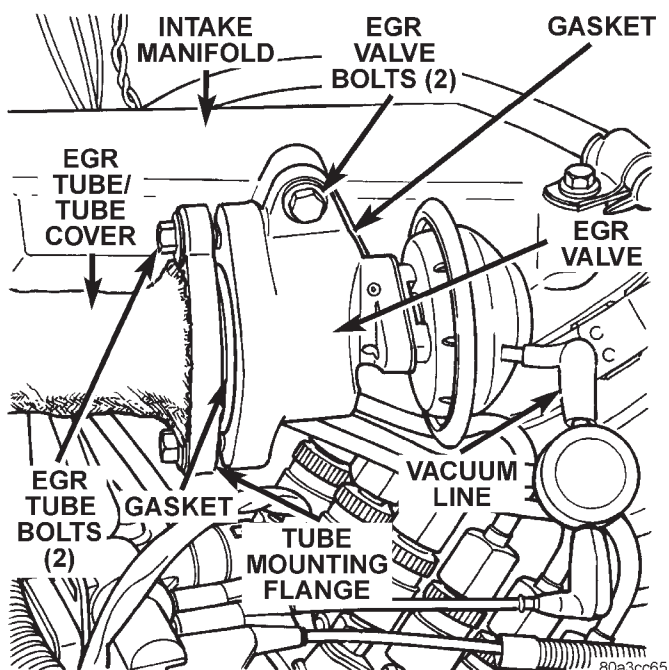

Fig. 10 EGR Valve Removal/Installation
(1) Disconnect vacuum line at EGR valve vacuum supply fitting (Fig. 10).
(2) Remove the two bolts retaining EGR tube to side of EGR valve (Fig. 10).
(3) Remove the two EGR valve mounting bolts (Fig. 10) and remove EGR valve.
(4) Discard both of the old EGR mounting gaskets.
(3) Position new gasket between EGR valve and EGR tube and position EGR valve to tube. Install 2 bolts finger tight only.
(4) Position new gasket between EGR valve and intake manifold.
(5) Install 2 EGR valve-to-intake manifold bolts finger tight only.
(6) A slotted mounting bolt hole is located at lower ear on EGR valve. Rotate EGR valve until square to EGR tube. Tighten 2 EGR valve-to-intake manifold bolts to 24 N·m (212 in. lbs.).
(7) Tighten 2 EGR tube-to-EGR valve mounting bolts to 24 N·m (212 in. lbs.). **When tightening these 2 bolts, alternate between the upper and lower bolt to allow face of EGR valve to remain square to tube mounting flange (Fig. 10) on EGR tube.**
(8) Connect vacuum line to EGR valve.
The EGR tube connects the EGR valve to the rear of the exhaust manifold (Fig. 10).
(1) Remove 2 EGR tube mounting bolts at EGR valve end of tube (Fig. 10).
- (1) Install a new gasket to EGR valve end of EGR tube.
- (2) Install a new gasket to manifold end of EGR tube.
- (3) Position EGR tube to engine and install bolts/nuts.
- (4) Tighten all bolts/nuts to 24 N·m (212 in. lbs.) torque. **When tightening bolts at EGR valve end of tube, alternate between the upper and lower bolt to allow face of EGR valve to remain square to tube mounting flange (Fig. 10) on EGR tube.**